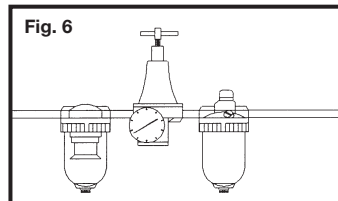

Fig. 6
8. Use clean, dry, regulated, compressed air at 70 to 120 PSI, (4.8 to 8.3 BAR). Fig. 6.